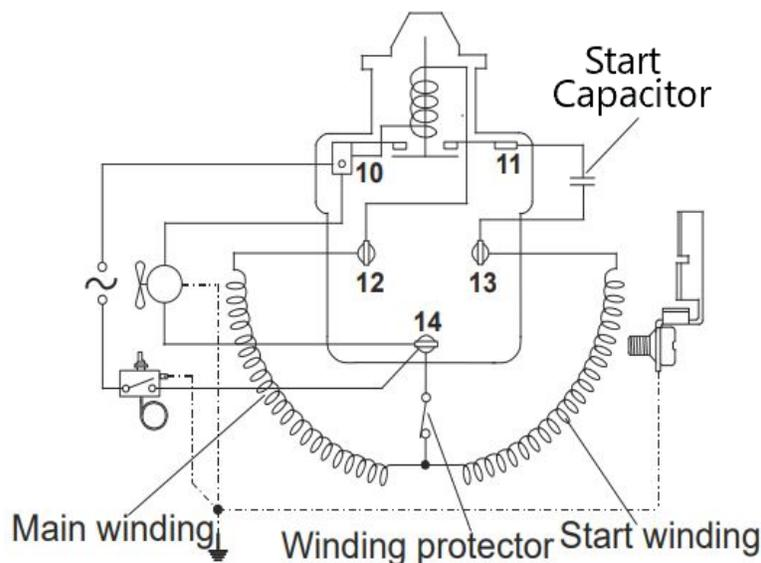

Figure 14. Compressor Winding
1. Gear motor thermal overload, manual reset type (RED button on motor). See Figure 14.